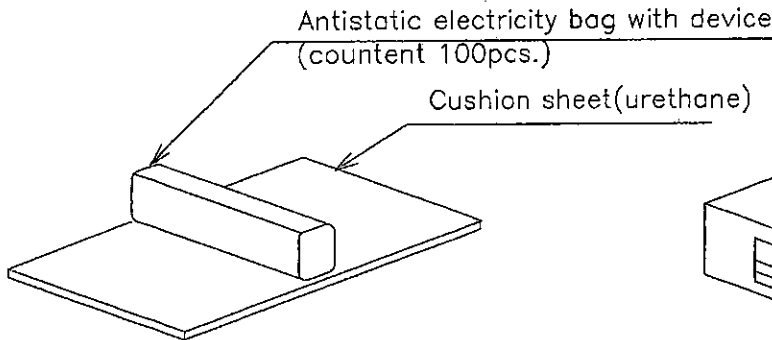

Fig.2
- A pack (item1) should be wrapped by cushion sheet (urethane). And five packs should contain in one box. (Fig. 2, Fig. 3)